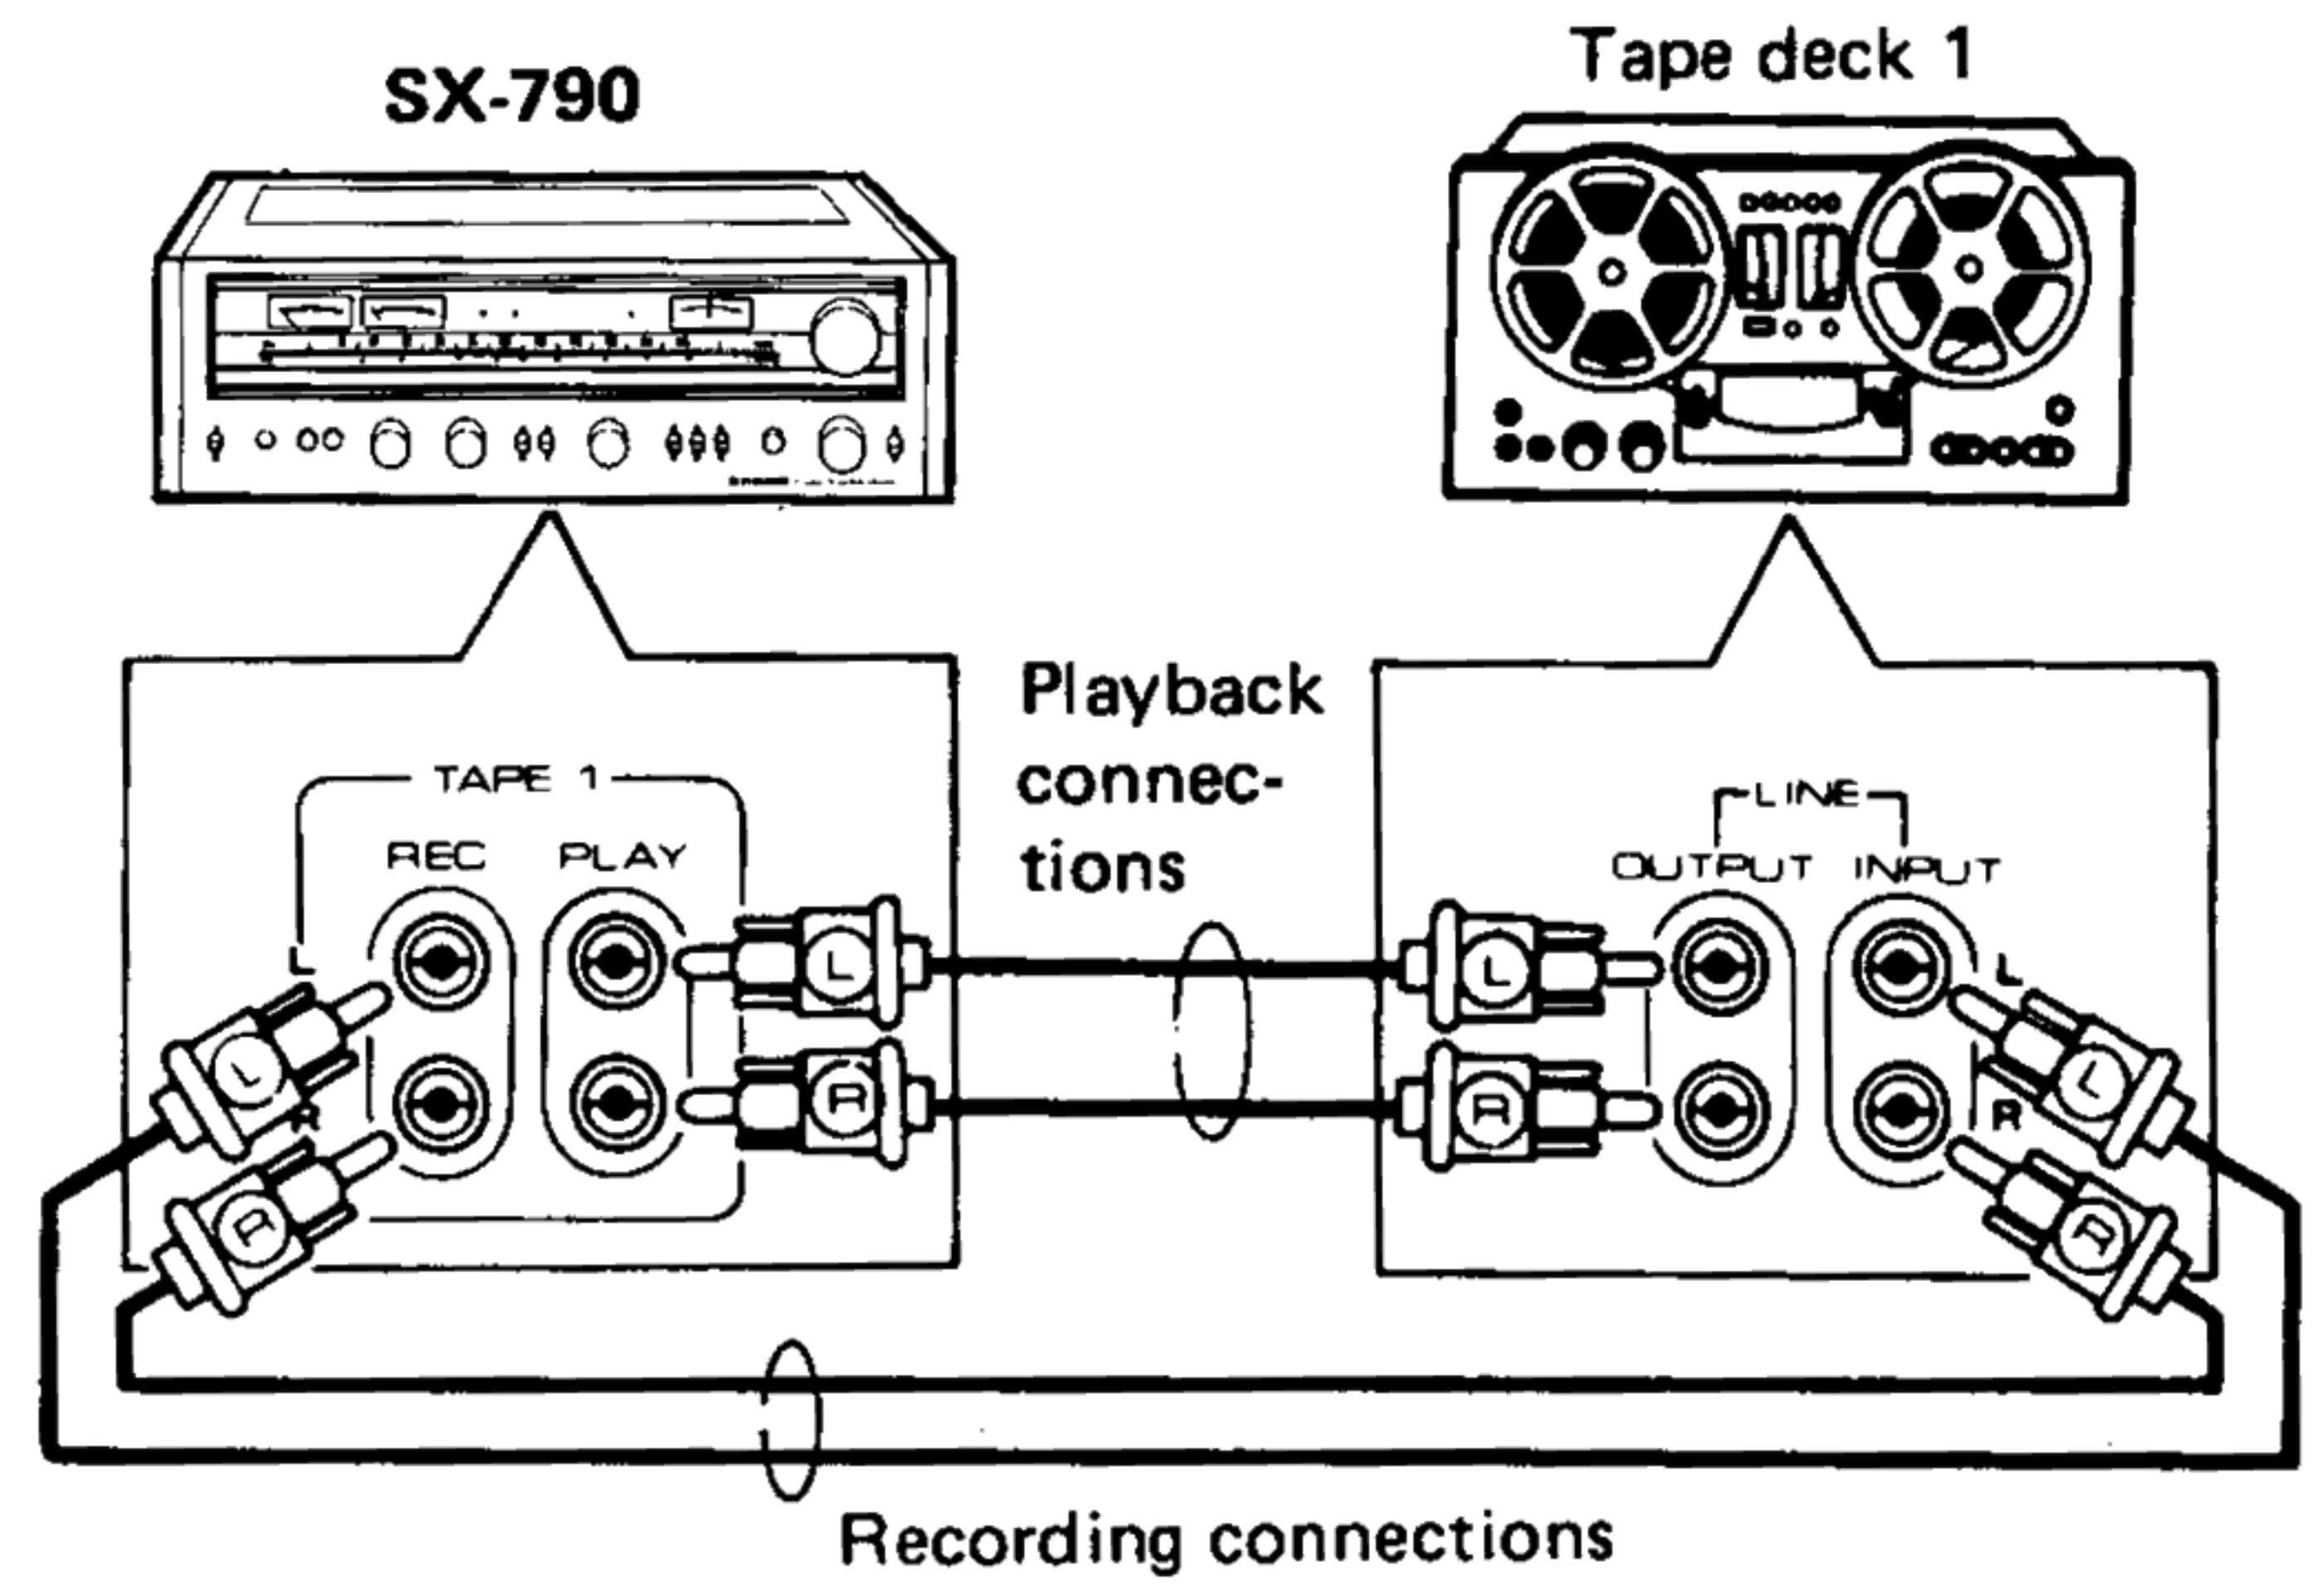

Fig. 4
The receiver is provided with two sets of recording (TAPE REC) output jacks and playback (TAPE PLAY) input jacks. Connect each of the jacks in the following way using the connecting cords which come with the tape deck. The upper row of jacks is for the left channel (L) and the lower row for the right channel (R) (Fig. 4).